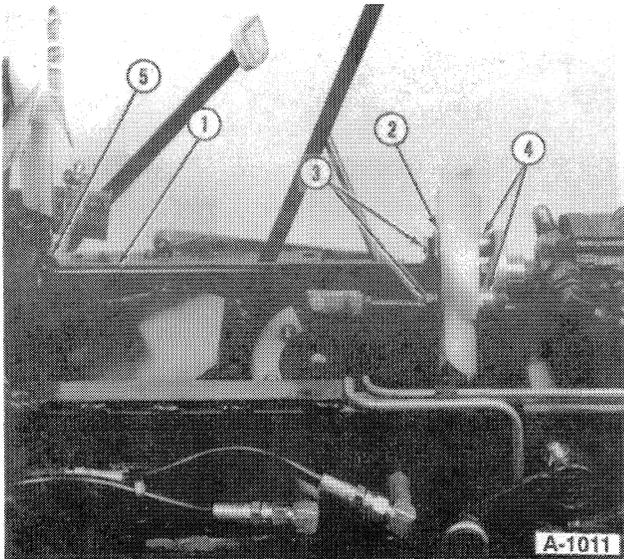

FIGURE 1-17
19. From under the tractor, remove the two transmission drive shaft coupling bolts, 3, and spacers, 4, Figure 1-17.